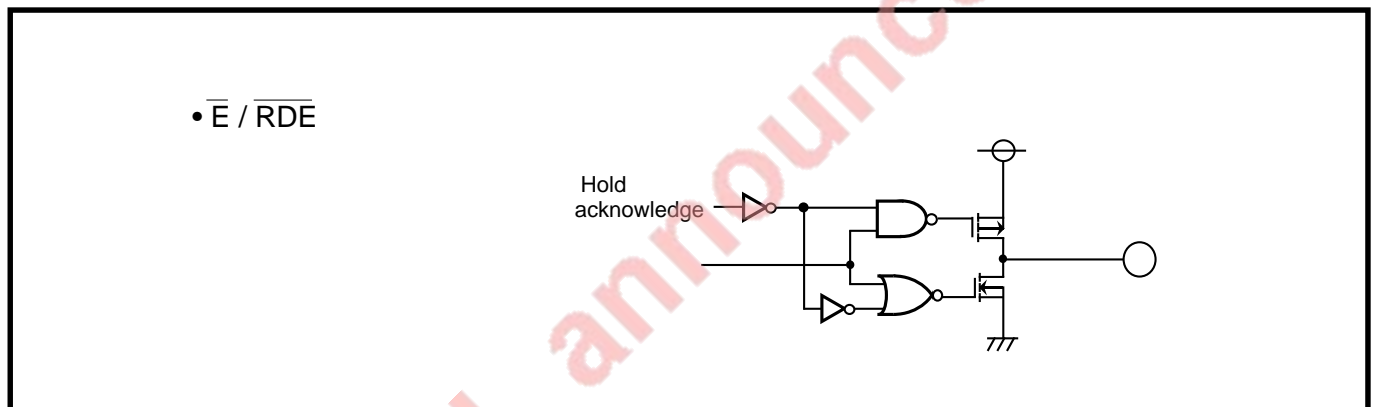

Fig. 3.2.2 Port peripheral circuits (2)
- Pin  $\overline{E}/\overline{RDE}$  in Figure 3.2.2